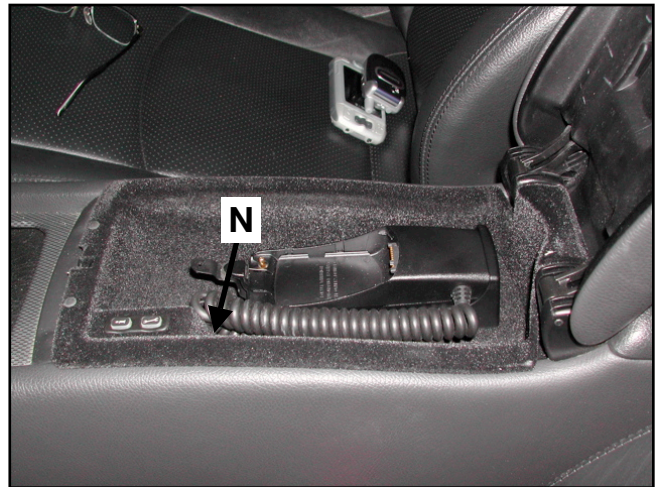
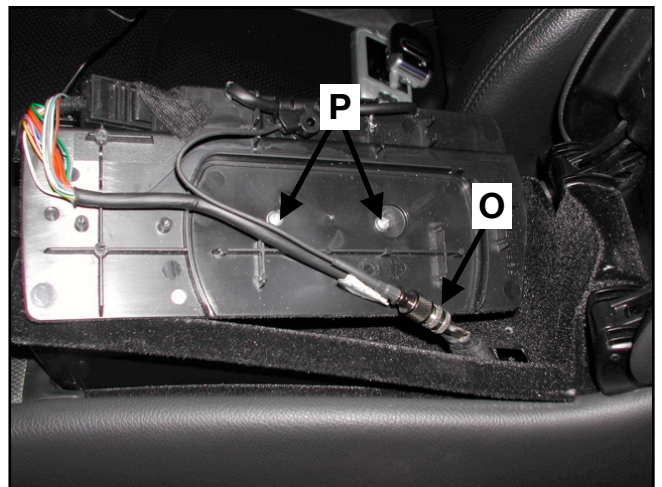

Figure 8
Figure 9
3. Open the phone compartment and pull up on the phone cradle (Figure 8) the entire panel should lift out.
4. Disconnect the RJ-45 cradle connector (N, Figure 8) antenna cable (O, Figure 9) then remove the two screws from the bottom of the panel (P, Figure 9) to detach the cradle.